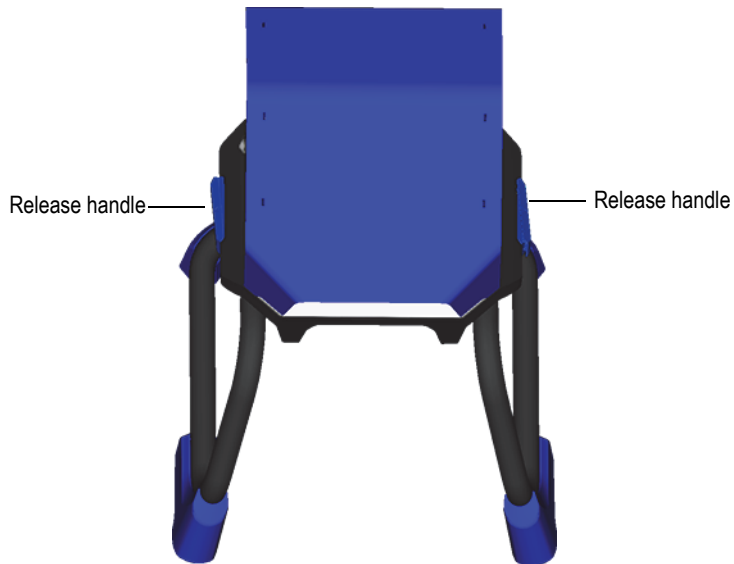

Figure B-16 Work Station chamber releases
1. Pull out the Work Station chamber release handles, and then lift the chamber up off of the legs (see Figure B-16 on page 121).